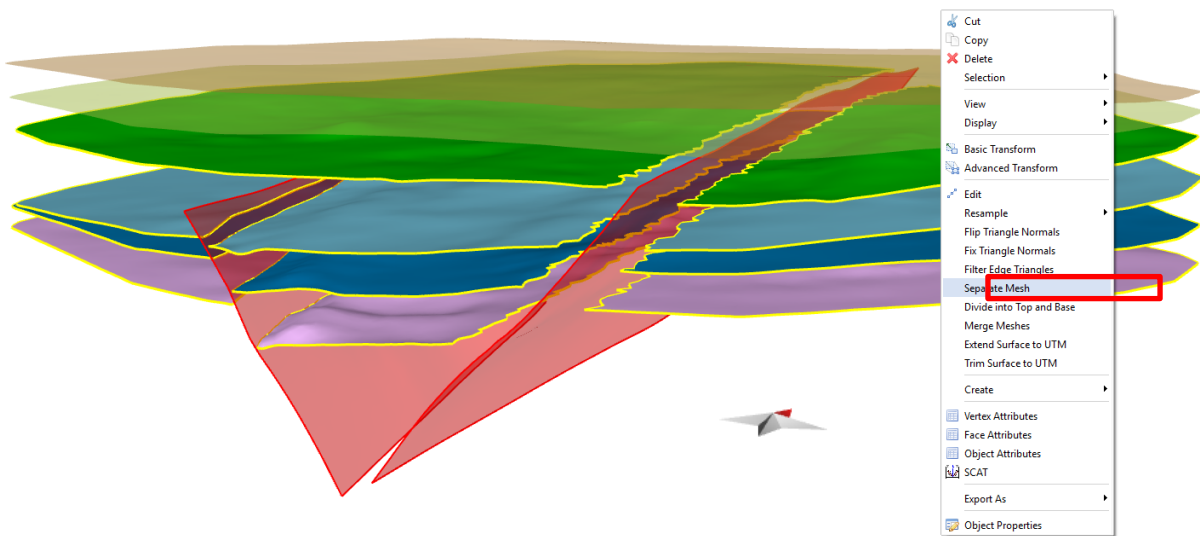

Figure 4. Separating meshes of Lower Triassic, Triassic, Early Jurassic and Upper Cretaceous. Separate Mesh is highlighted on the context menu by red rectangle.
7. Select the four horizon surfaces, right-click and select **Separate Mesh** from the context menu, as displayed in Figure 4.